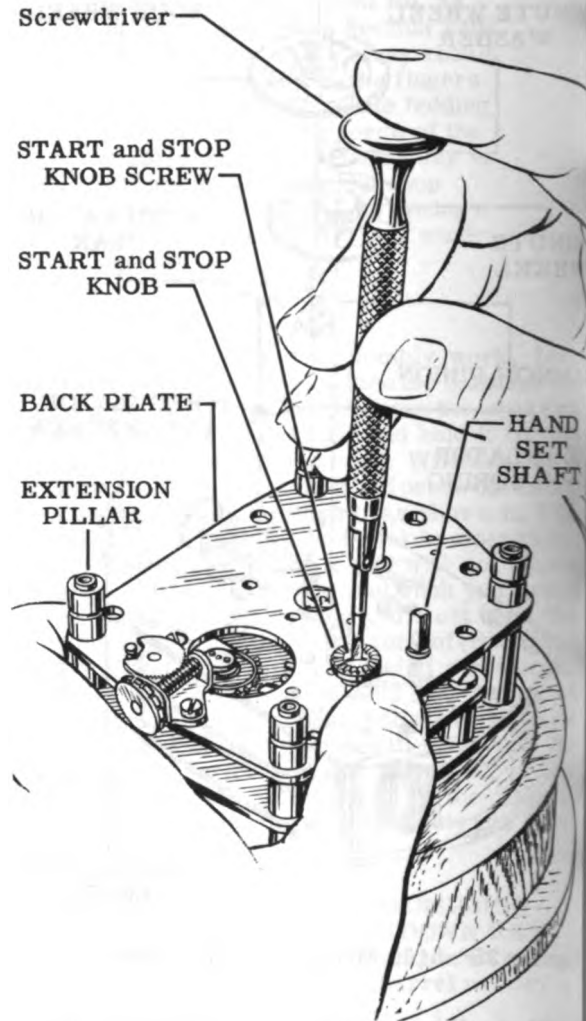

Figure 39
6. Unscrew the start and stop knob screw and remove the start and stop knob. See Fig. 39.